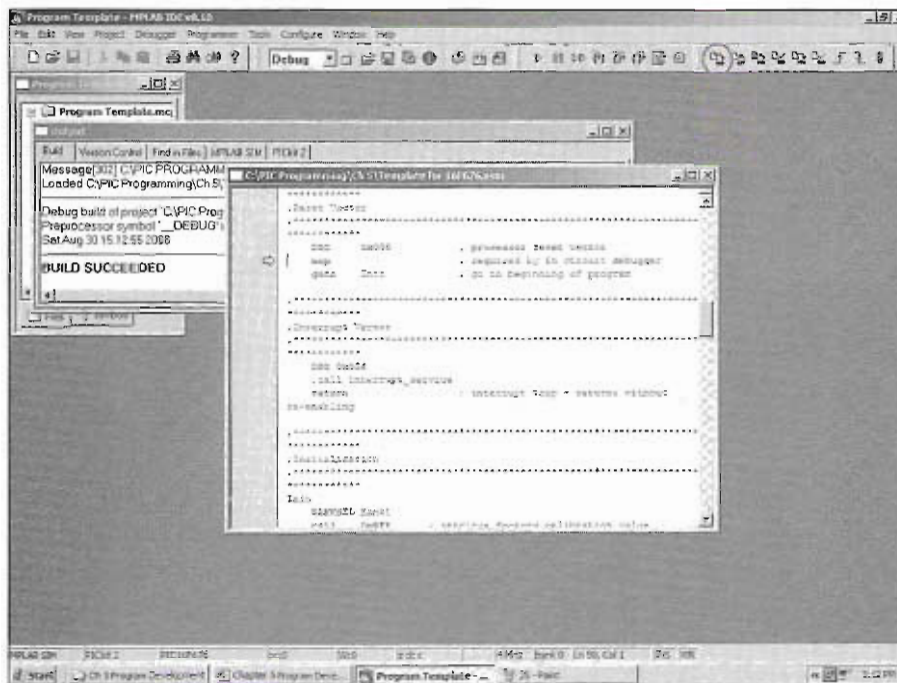

Figure 5-25 — Click on the PROGRAM TARGET DEVICE icon (circled above).
Step 13. Click on the **PROGRAM TARGET DEVICE** icon in the menu bar (circled icon in **Figure 5-25**). If the programming was successful, the verification will be spelled out in the Output window (**Figure 5-26**).